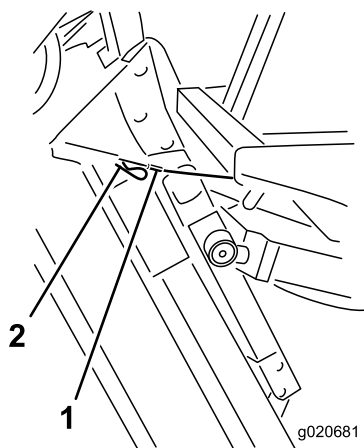

Figure 76
6. Hold the cutting unit upright, fit the cable end over the pin on the cutting unit lift arm and secure it with the hairpin cotter (Figure 76).